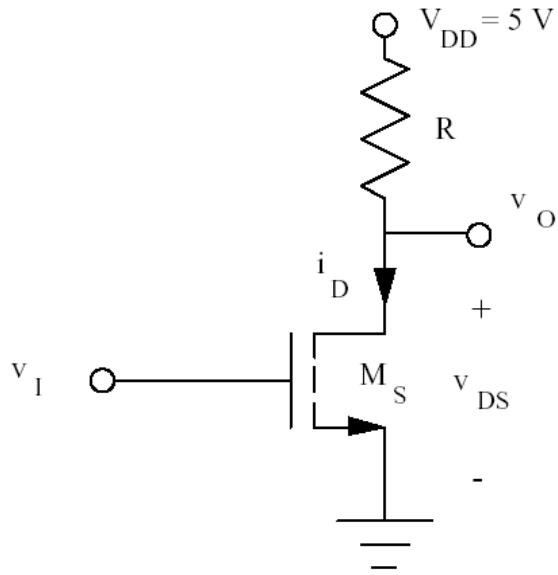

Figure 1. NMOS inverter with resistive load.
- (1) Obtain the data sheet for the ZVN4306 MOSFET.
- (2) What is the gate-source voltage in Fig. 1 (below)?
- (3) What is the approximate value of the drain current in Fig. 1 (below) with the voltages as shown, assuming V_{DS} is very small?
- (4) What is the average power dissipation in the logic gate shown in Figure 1 if the gate of M1 is connected directly to a 0 to 5V square wave instead of the voltage divider?
1. Connect the NMOS inverter as shown in Fig. 1